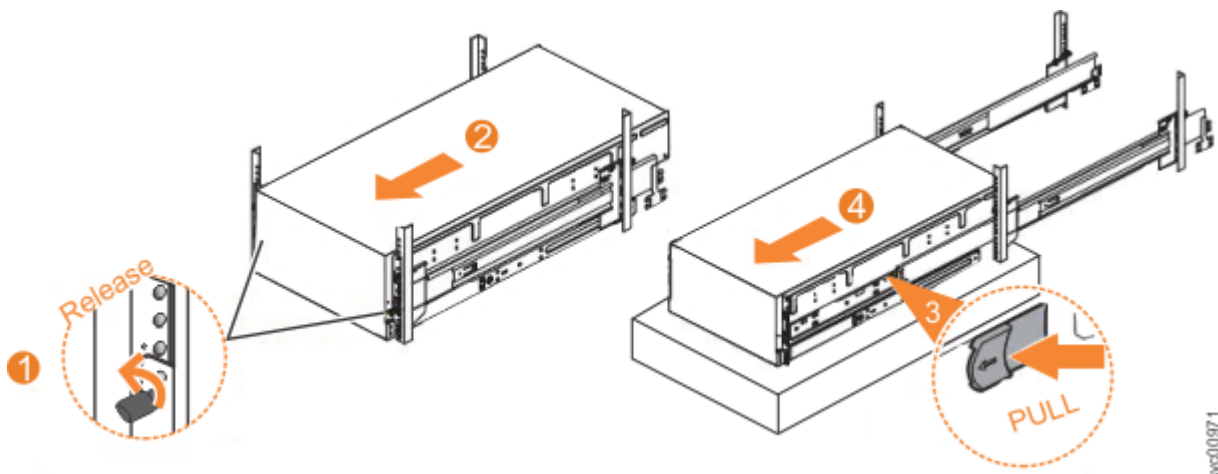

Figure 134. Removing the 5U expansion enclosure from the rack
1. Loosen the locking thumb screws (1) on the front of the enclosure, as shown in Figure 134 on page 175.
2. Carefully slide the enclosure forward out of the rack (2), as shown in Figure 134 on page 175.
3. Locate the left and right blue release tabs near the front of the enclosure. Pull both release tabs forward to unlock the drawer mechanism (3 in Figure 134 on page 175).
4. Slide the enclosure and inner rail member out of the rack (4 in Figure 134 on page 175).